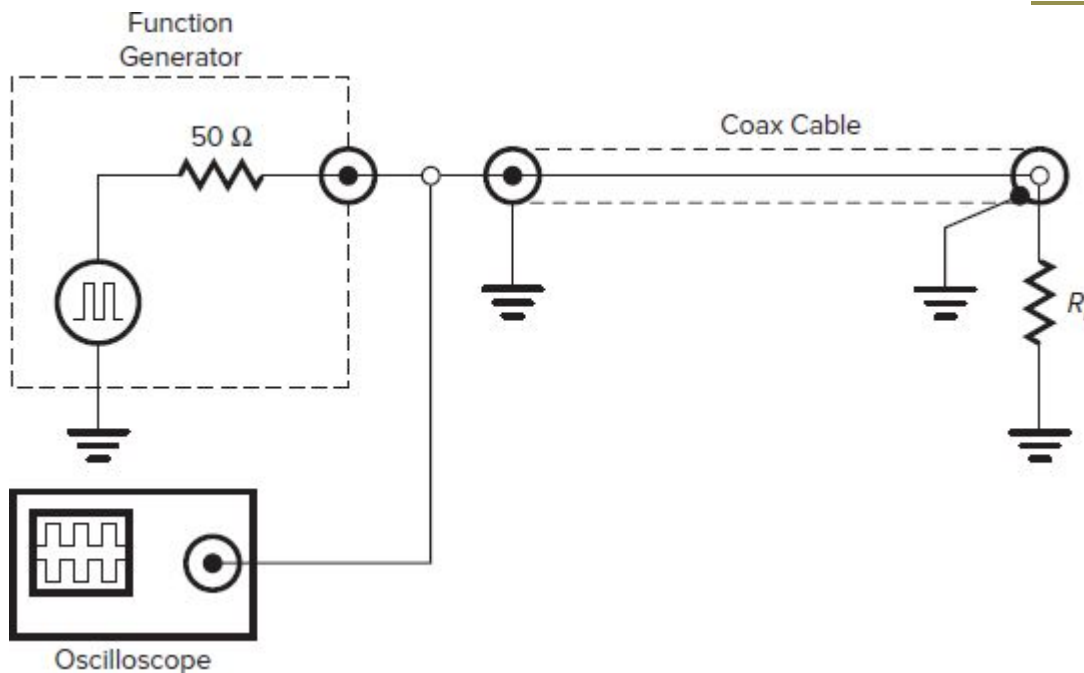

Fig. 13-5 Test setup for TDR. Note that the oscilloscope monitors the input signal.
Figure 13-5 shows the test setup for TDR measurements. Note that you are monitoring the *input* signal. A pulse generator applies a
4. Now, connect the circuit shown in Fig. 13-5. Use a 51- Ω resistor for the load. Observe the input signal. Measure the voltage value on the scope and record your value below. Explain what you see. Is the load matched to the line?